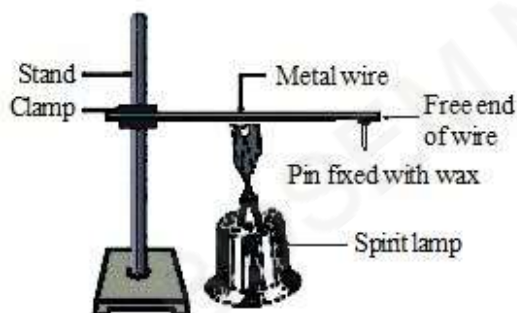

Fig. 5.1. Metals are good conductors of heat
- ☞ Take a thick copper or aluminium wire. Clamp it horizontally as shown in Fig. 5.1